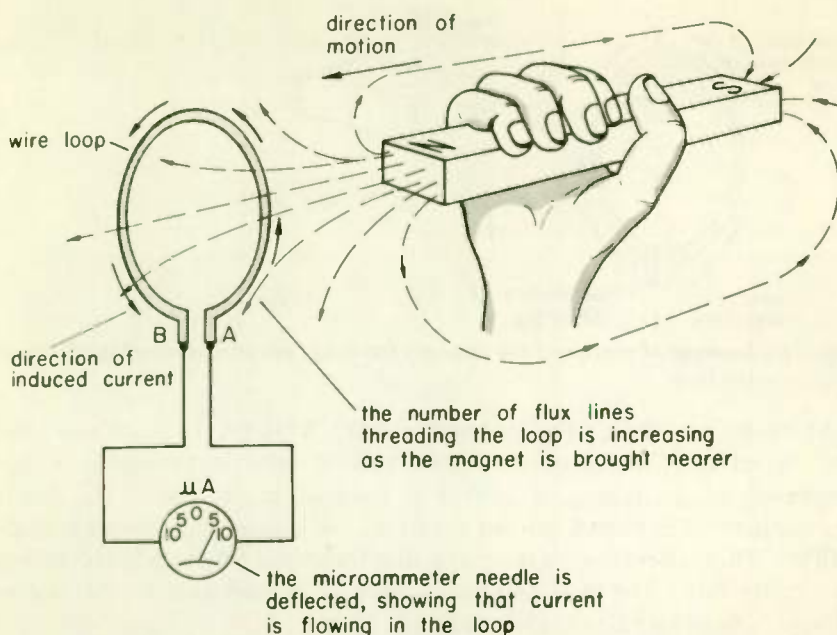

Fig. 15 Moving a magnet toward a wire loop induces a current in the loop.
- 6** INDUCED VOLTAGE THROUGH MOTION . . . Figure 15 shows a bar magnet being brought near a loop of wire. As the magnet gets nearer, the number of flux lines threading the loop increases. If we
1. Show that the direction of current flow in the loop of Fig. 15 is as indicated.